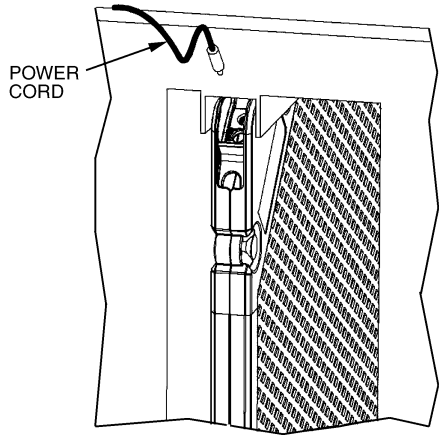

Fig. 3 — Power Cord Removal
2. Disconnect power cord from the electronic air cleaner. See Fig. 3.